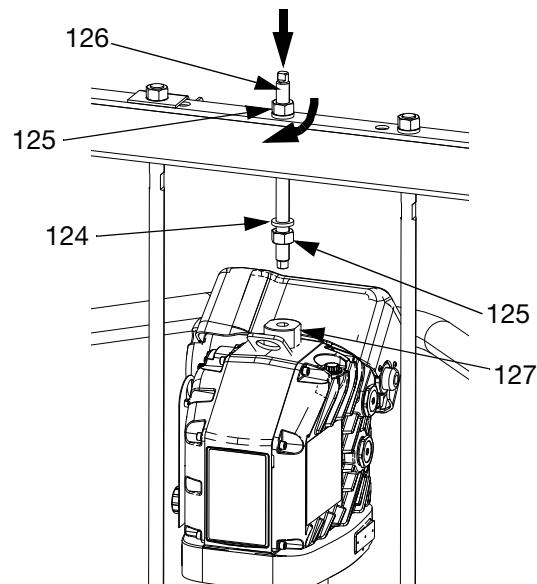

FIG. 42
1. Using a capable hoist, insert tie rods into the Displacement Pump (AC) and secure the Driver (AB) to the Pump (AC).
- b. Install threaded rod (126) through center hole in the crossbar. Install lock washers (124) and nuts (125) onto threaded rod (126), both above and below crossbar. Use wrench to hold lift ring adapter (127) and tighten threaded rod (106) into lift ring adapter (127) using another wrench. See FIG. 42.
- c. Tighten nut (125) below crossbar to 25 ft-lb (34 N•m) maximum.
- d. Tighten nut (125) above crossbar to lock Driver (AB) in place.